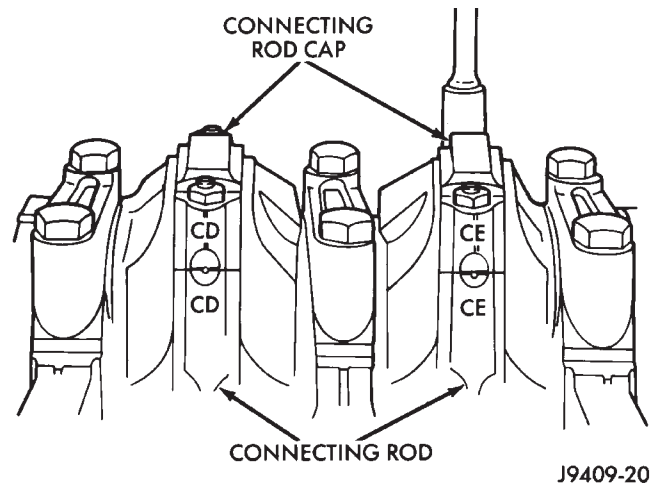

Fig. 1 Stamped Connecting Rods and Caps
- (1) Remove the engine cylinder head cover.
- (2) Remove the rocker arms, bridges and pivots.
- (3) Remove the push rods.
- (4) Remove the engine cylinder head.
- (5) Position the pistons one at a time near the bottom of the stroke. Use a ridge reamer to remove the ridge from the top end of the cylinder walls. Use a protective cloth to collect the cuttings.
- (6) Raise the vehicle.
- (7) Drain the engine oil.
- (8) Remove the oil pan and gasket.
(9) Remove the connecting rod bearing caps and inserts. Mark the caps and rods with the cylinder bore location. The connecting rods and caps are stamped with a two letter combination (Fig. 1).